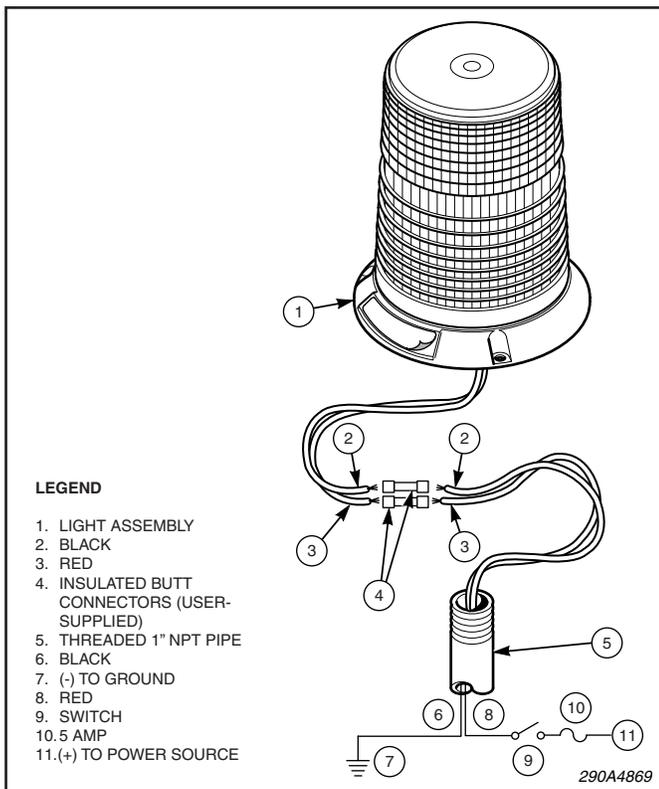

Figure 2.
2. *Pipe Mount* (see figure 2).